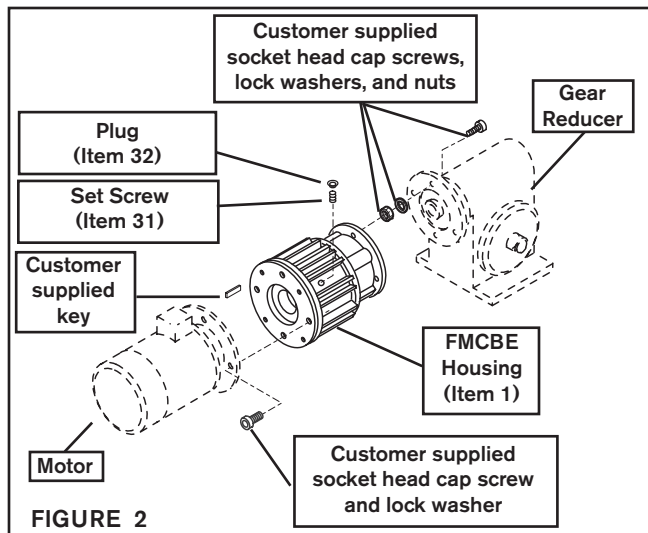

FIGURE 2
4. Slide the FMCBE output shaft into the gear reducer (See Figure 2).
5. Secure the FMCBE to the gear reducer, using customer supplied socket head cap screws, lock washers, and nuts (See Figure 2).
7. Insert the customer supplied key into the motor shaft keyway (See Figure 2).
8. Secure the FMCBE to the motor using customer supplied socket head cap screws and lock washers; then, tighten the socket head cap screws to 48.3 Ft. Lbs. [65.5 N•m] torque (See Figure 2).
11. Tighten the Set Screw (Item 31) and install the Plug (Item 32) (See Figure 2).